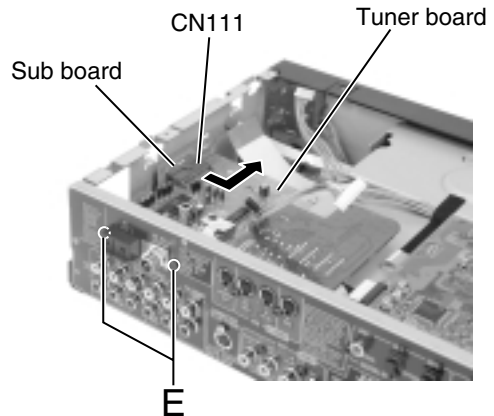

Fig.20
**■Removing the tuner board / the sub board (See Fig.20 and 21)**